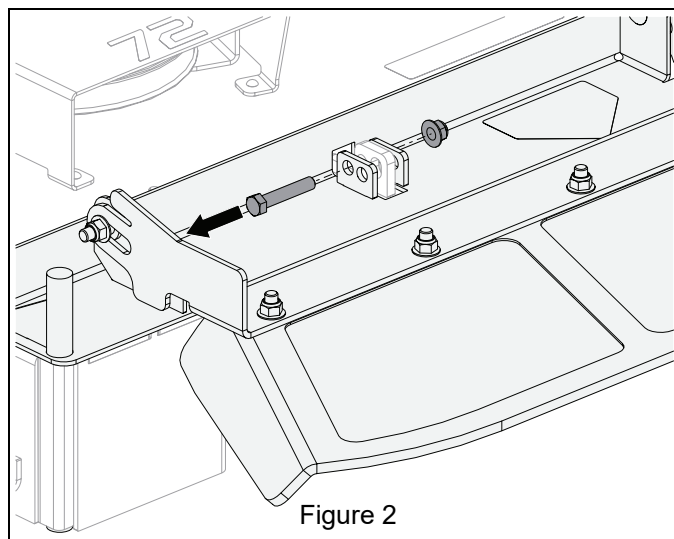

Figure 2
4. Remove hardware retaining discharge chute assembly and remove chute assembly. Retain all parts for operation without mulch kit. See Figure 2.